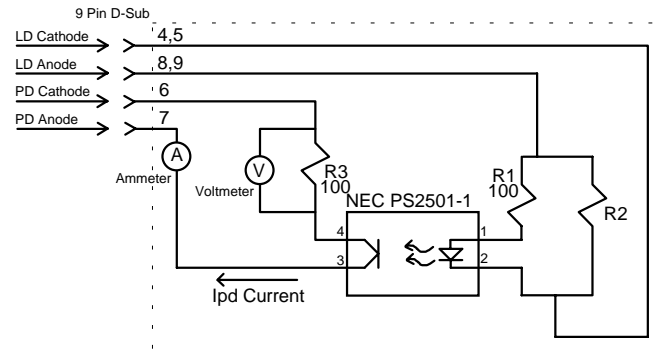

Figure 28 – I_{PD} Calibration Circuit
- a. With the laser output off, connect a calibrated ammeter to the PD Anode output of the module and connect the circuit of **Figure 28** to the laser and PD outputs.
If a calibrated ammeter (with 0.1 μA resolution) is not available, place a calibrated DMM (with 0.1 mV resolution) to measure the voltage across the resistor, R3, as shown in **Figure 28**.
- a. With the laser output off, connect a calibrated ammeter to the photodiode anode output of the module and connect the circuit of **Figure 28** to the laser and photodiode outputs.